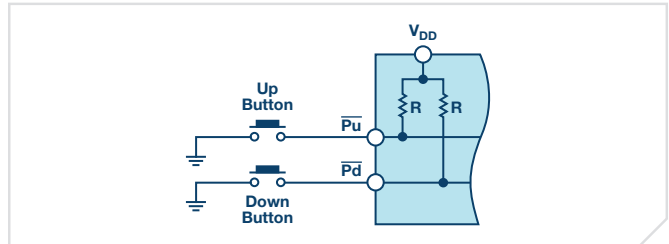

Figure 6. Push-button interface.
- ▶ **Push-button**—the user can interact directly with the system by just adding two push-button switches; press the UP button to increment the resistance and DOWN to decrement resistance (see Figure 6)